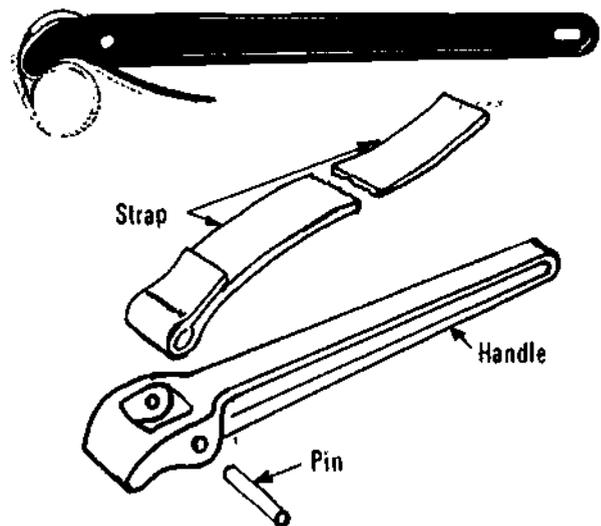

Figure 1-136. Strap Wrench
a) The strap wrench shown in Figure 1-136, when correctly used, will not normally mar the chrome finish on a pipe when tightening it in place.